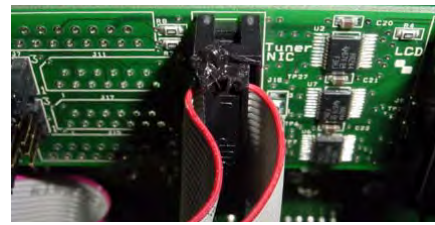

FIG. 13 20-Pin Connector and Ribbon Cable
- Verify that both ends of the cable are securely plugged into their respective boards through the 20-pin connectors (FIG. 13).